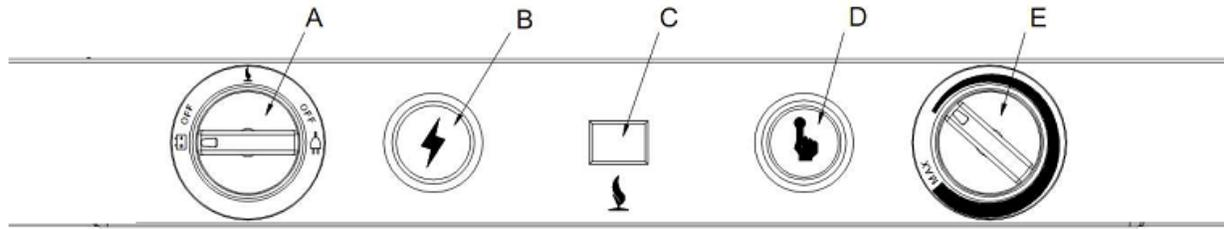

Fig1 A: Power switch B: Pulse ignition switch C: Flame indicator D: Safety valve E: Thermostat knob
The refrigerator can be run on either AC or LP gas, or even 12VDC for some models. Changing between these modes of operation is carried out by means of control buttons positioned as shown in fig. 1. The piezoelectric igniter discharges sparks over the burner when the button (B) is depressed. In the flame indicator (C), you can see a blue light when the flame is alight. The refrigerator is fitted with a safety device which automatically shuts off the supply of gas if the flame goes out. The safety device can be opened manually by depressing knob (D). The refrigerator temperature is controlled by a thermostat (E). Please note that the thermostat has no "off" position.